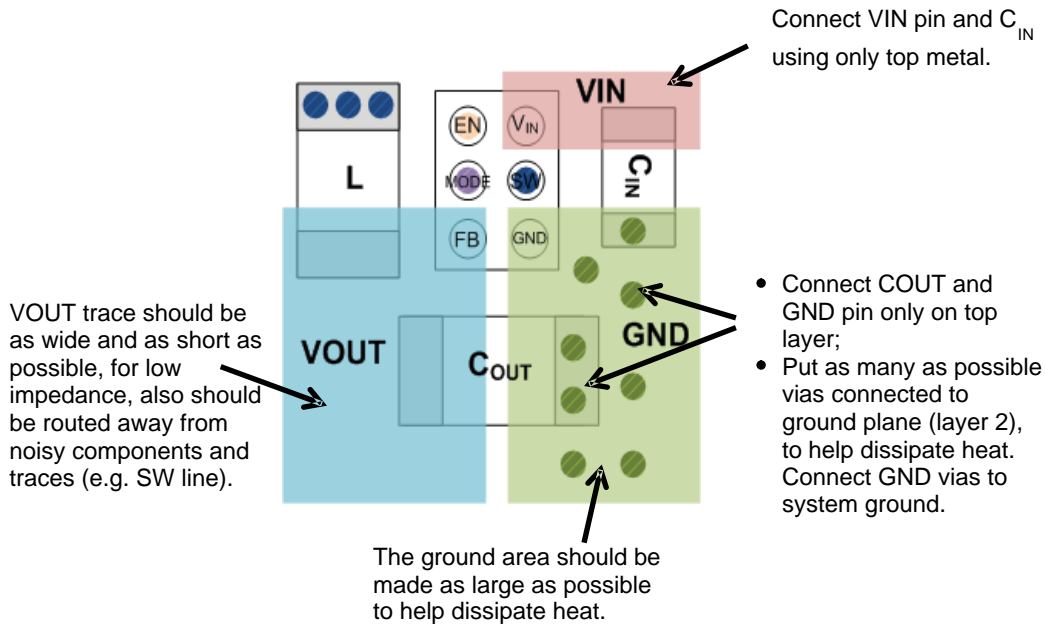

Figure 26. Top Layer
1. The input capacitor (C_{IN}) should be connected as close as possible to the VIN and GND pins. Connect to VIN and GND using only top metal. Do not route through vias (*see Figure 26.*)
2. Place the inductor (L) as close as possible to the IC. Use short wide traces for the main current paths.